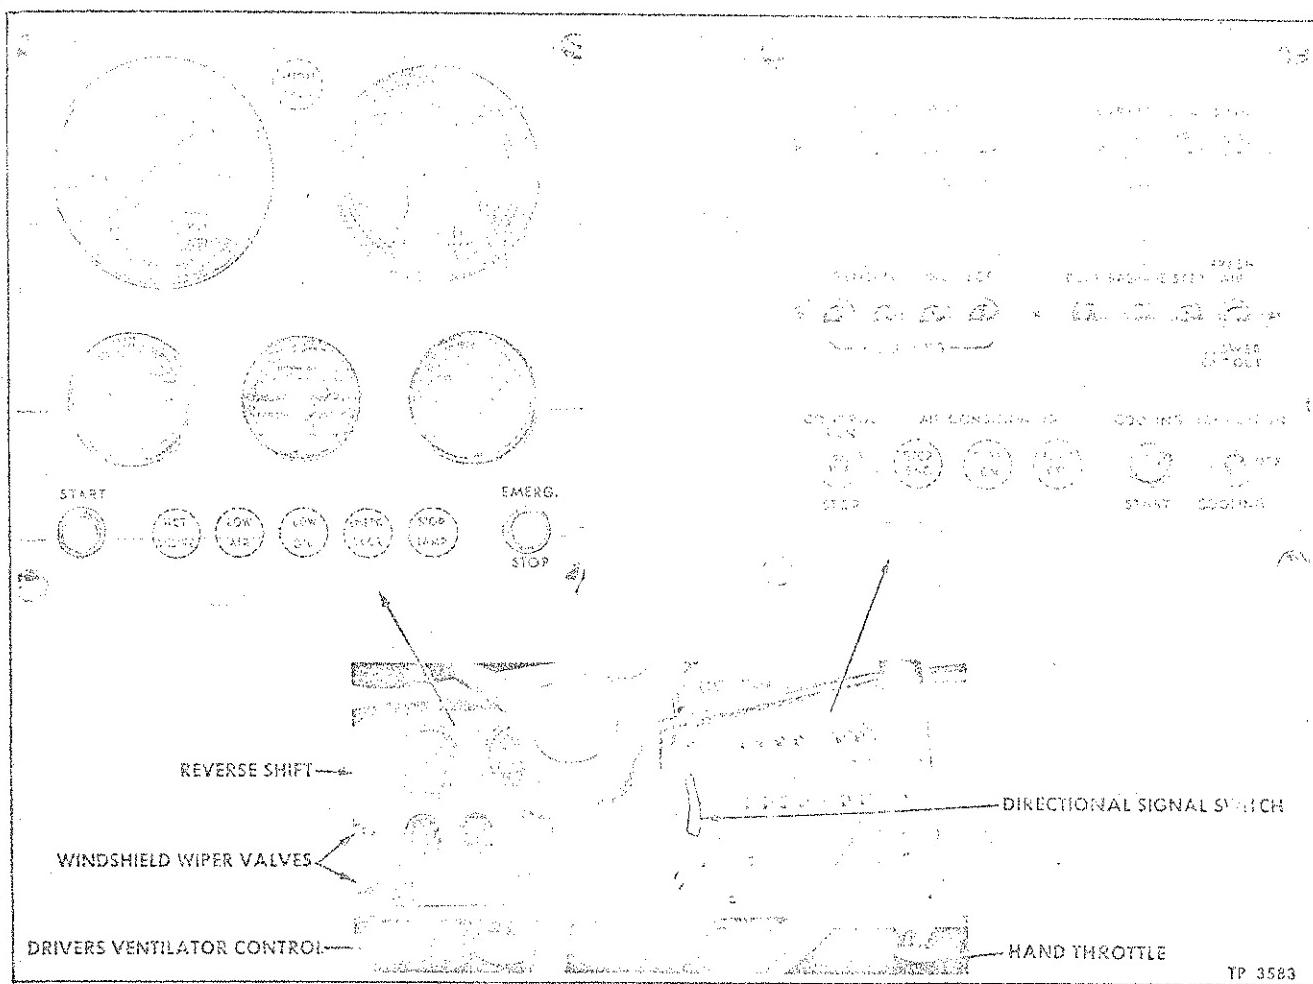
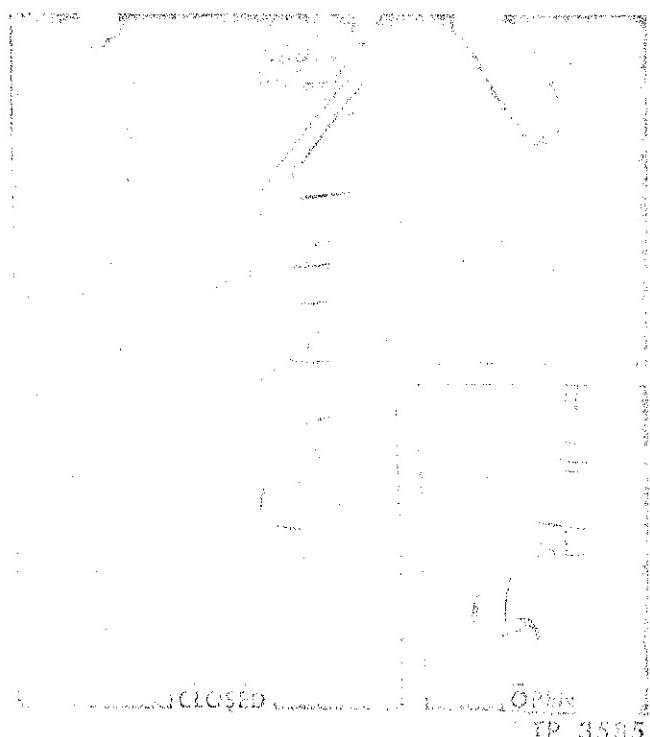

Figure 2—Drivers Gauge and Switch Panels
Figure 5—Emergency Stop Solenoid and Air Choke Valve Handle
The gauge and switch panels (fig. 2) includes switches, gauges, and signal lights which are used in the control of the engine and lights. The loca-
Controls and gauges for operation of the Diesel engine from the driver's compartment are located in the gauge panel and switch panel (fig. 2). These are: Engine control switch, marked "CONTROL"; engine starter button, marked "START"; emergency stop button, marked "EMERG. STOP"; oil pressure gauge and low oil tell-tale; engine water temperature gauge and hot engine tell-tale; generator charge indicator; hand throttle.
Engine emergency stop solenoid (fig. 5) is used as an emergency measure to stop engine in the event the engine fails to stop when "Engine Stop" button is pressed. Emergency stop solenoid is energized by pressing button marked "Emerg. Stop" on drivers gauge panel (fig. 2). Emergency stop solenoid is also energized by low oil pressure switch and by water thermostat as pre-
To reset air choke valve, turn release cam on valve shaft clockwise until shoulder on cam engages emergency stop solenoid plunger (fig. 5).
If engine fails to stop, press "EMERG. STOP" button on gauge panel (fig. 2). Whenever "EMERG. STOP" button is used to stop engine, air choke valve in blower air intake must be re-set manually before engine can be started (fig. 5). CAUTION: Do not re-start engine until reason for loss of control is determined and corrected. To re-set choke valve, swing handle up to horizontal (open) position (fig. 5).
Press "ENGINE STOP" button on control box in engine compartment (fig. 6). In the event engine fails to stop, raise emergency stop solenoid plunger (fig. 5) manually to release air choke valve. Whenever emergency stop has been used, air choke valve must be re-set as described in preceding paragraph.
- With vehicle at a complete stop and clutch pedal depressed, move shift lever from neutral (N) to 1st (fig. 5).